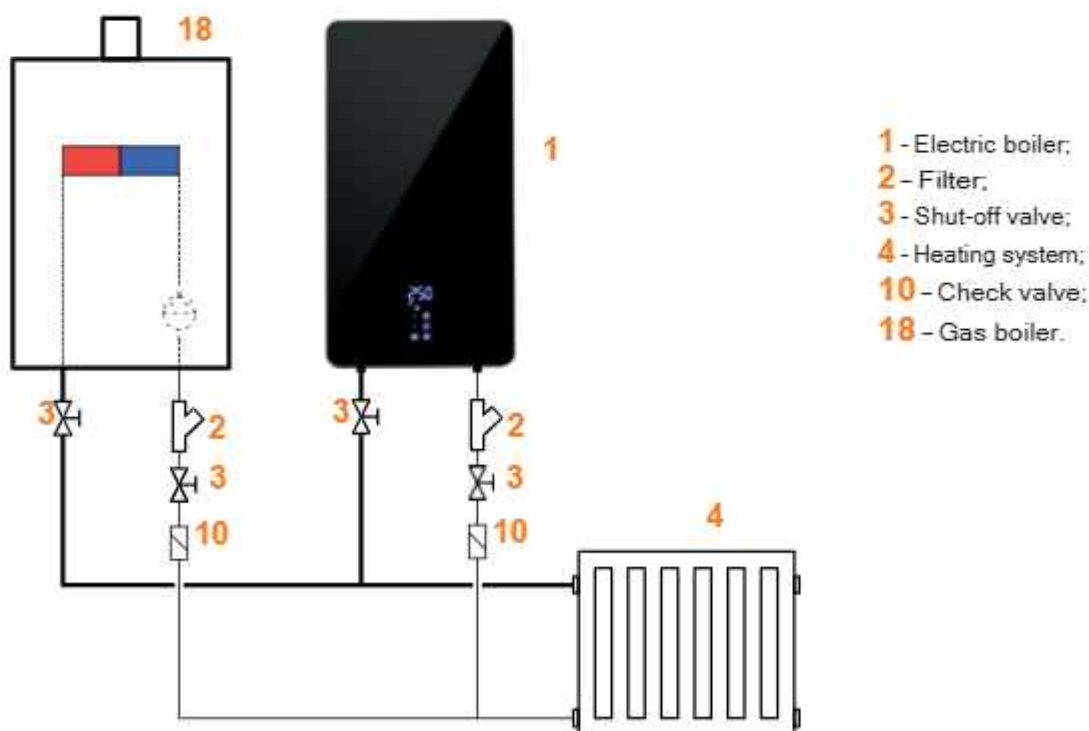

Figure 25 - Wiring diagram of gas and electric boilers.
5.8.1 When connecting an ESPRO electric boiler with other heat sources (see Figure 25 - 26), the electric boiler is used as a backup heat source, for example, it can operate at night at a reduced rate of electricity tariff (if the consumer has multi-tariff metering).